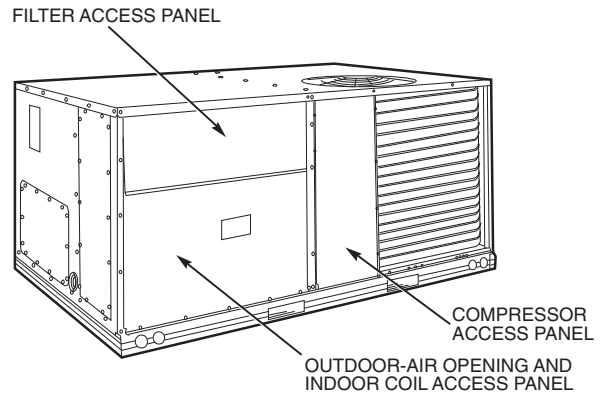

Fig. 10 — Typical Access Panel Locations
1. To gain access to the hood, remove the filter access panel. See Fig. 10.